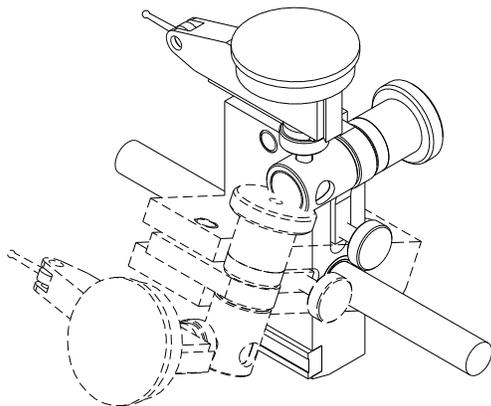
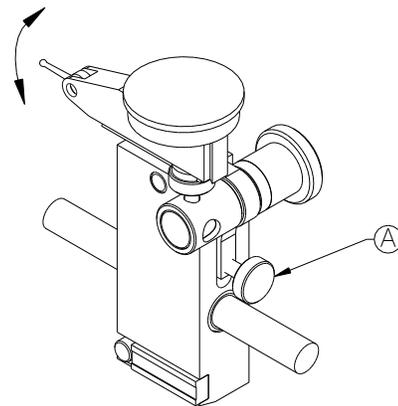

Figure 12. Tilt-away function
Figure 13. Fine adjust feature
8.0 Tilt-away and Fine Adjust – (See Figures 12 and 13)
The standard Indicator Carriers have three design features that allow quick and easy set-up. The first is the tilt-away feature that allows the user to move the carrier out of position for easier loading and unloading of parts (See Figure 12). The second is the fine adjust knob (A) (See Figure 13). Once a carrier is in close proximity to the part, the user can bring the tip of the indicator into position and zero it out. Lastly, the Carriers are adjustable along the shafts (Z-axis) for different part lengths.